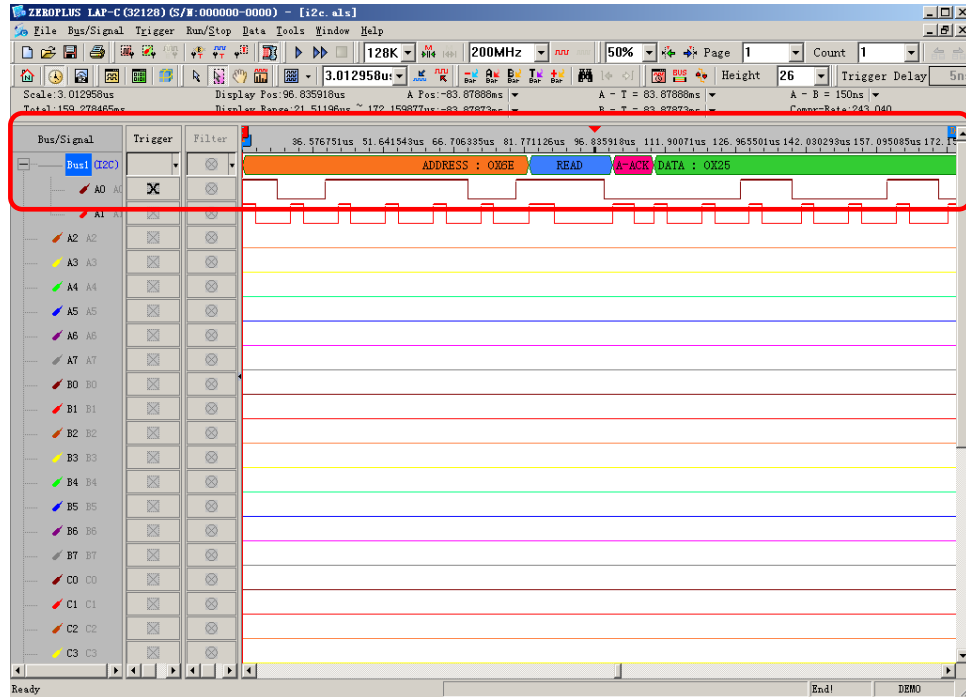

Fig 4-69 – Waveform Analysis
**Step9.** Click **Run** to acquire I2C signal from the tested I2C circuit. Refer to Fig 4-69.